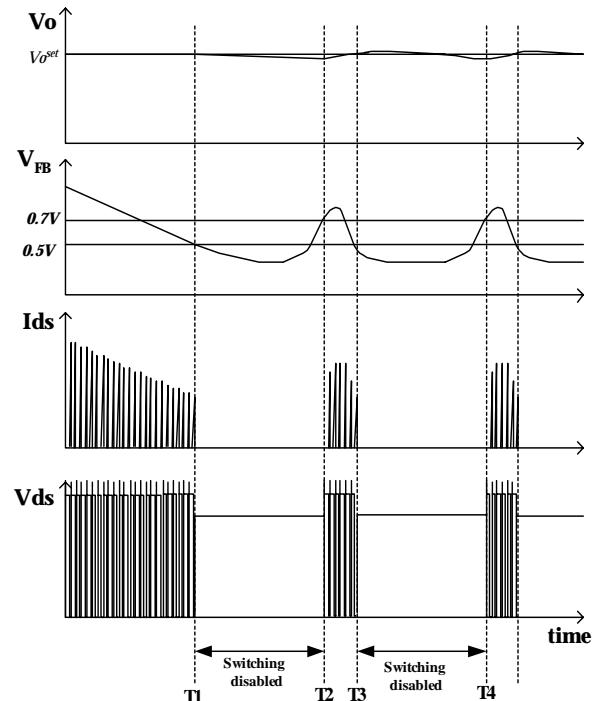

Figure 9. Waveforms of burst operation
5. Burst operation : In order to minimize power dissipation in standby mode, the FPS™ enters burst mode operation. As the load decreases, the feedback voltage decreases. As shown in figure 9, the device automatically enters burst mode when the feedback voltage drops below VBURL(500mV). At this point switching stops and the output voltages start to drop at a rate dependent on standby current load. This causes the feedback voltage to rise. Once it passes VBURH(700mV) switching resumes. The feedback voltage then falls and the process repeats. Burst mode operation alternately enables and disables switching of the power Sense FET thereby reducing switching loss in Standby mode.